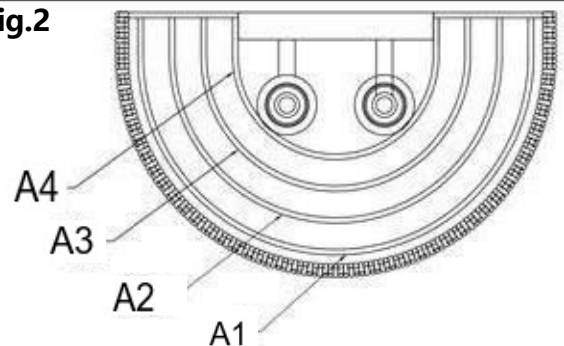

Fig.3
CONNECTING THE WIRES (Fig. 3)
5. Connect the electrical wire as shown in Fig.3, make sure that all the wire connectors are secured. If your junction box has a ground wire (green, or bare copper), connect fixture's ground wire to it. Otherwise connect fixture ground wire directly to mounting plate (A) using green screw provided.
6. Tuck wire connections neatly into junction box (JB).